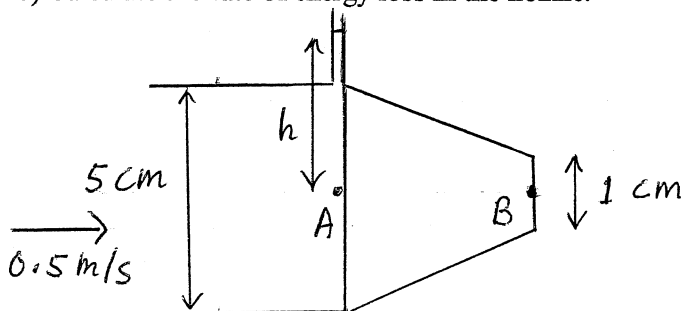

Figure 3
3) A horizontal pipe, of diameter 5 cm, discharges water to the atmosphere through a nozzle, AB, as shown in Figure 3. The inlet diameter of the nozzle is 5 cm while the outlet diameter is 1 cm. A simple water manometer is fixed to the pipe just upstream of the nozzle, as shown in the figure. The density of water is  $1000 \text{ kg/m}^3$ .